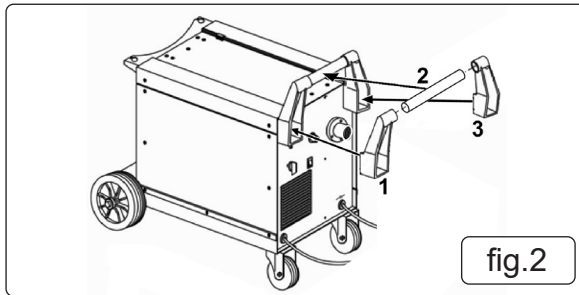

fig.2
4.2. ASSEMBLING THE HANDLE: (Refer to fig.2)